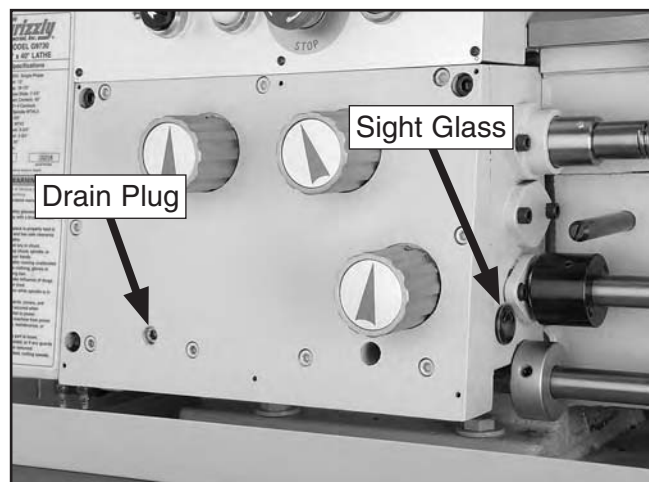

Figure 103. Locations of the quick change gearbox drain plug and sight glass (front panel removed for access).
The quick change gearbox reservoir has the proper amount of oil when the level in the sight glass is approximately halfway. The sight glass is located on the right side of the gearbox, as shown in **Figure 103**.
6. Remove the gearbox front panel to expose the drain plug (see **Figure 103** on the previous page).